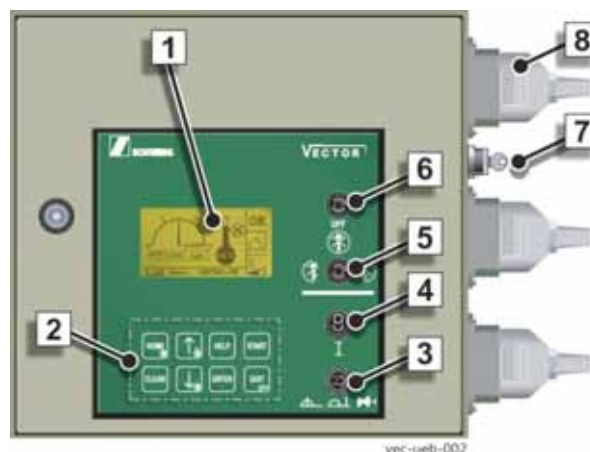

Fig. 81
Activate the "Pumping piston change" operating mode using switch 3 on the switch cabinet of the VECTOR control system (Fig. 81).
<ul style="list-style-type: none"> ➤ Using the operating mode switch (3) (Fig. 81), select the "Local" operating mode ➤ Lower all vertical outriggers until all of the vehicle's wheels are no longer in contact with the ground <p>A horizontal extension of the outriggers is not required.</p>